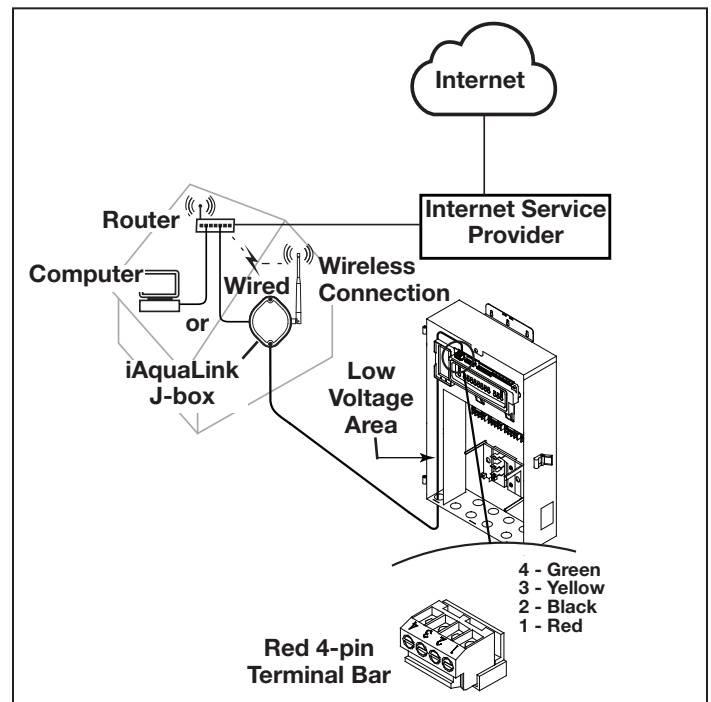

Figure 31. iAquaLink J-Box Indoor Installation
2. Mount the outdoor iAquaLink J-box at least six (6) feet (1.8 m) above the ground, at least ten (10) feet (3 m) from any motor or air blowers that may be in the vicinity, and at least five (5) feet (1.5 m) away from other transceiver J-boxes. See Figure 31.
5. Pull cable through the knockout and into the low voltage area. See Figure 31.
7. Strip each wire 1/4" (6 mm) and connect to the red, wire connector on the power center PCB. A multiplex kit (P/N 6584) may be required if there are more than two (2) cables running to a red, wire connector on the power center PCB.